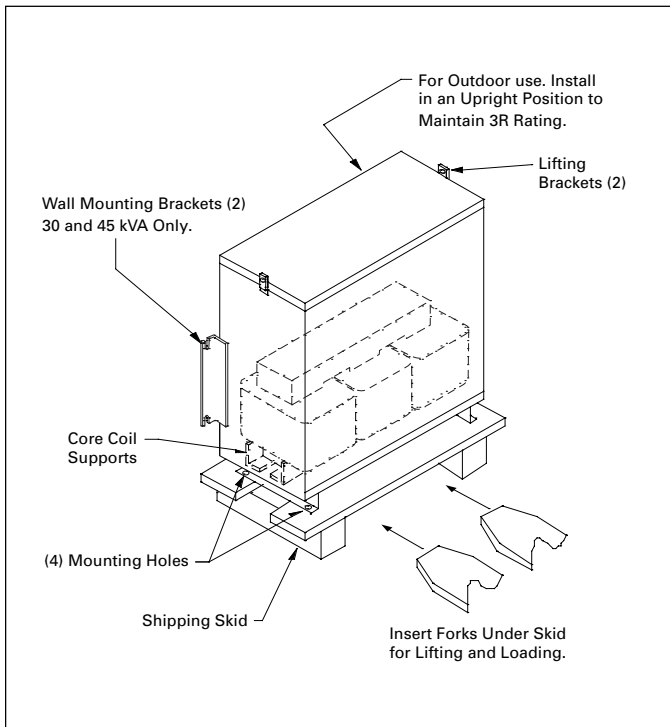

Figure 2 Typical Encapsulated Transformer.
- For further information see Figure 2 on Page 3.